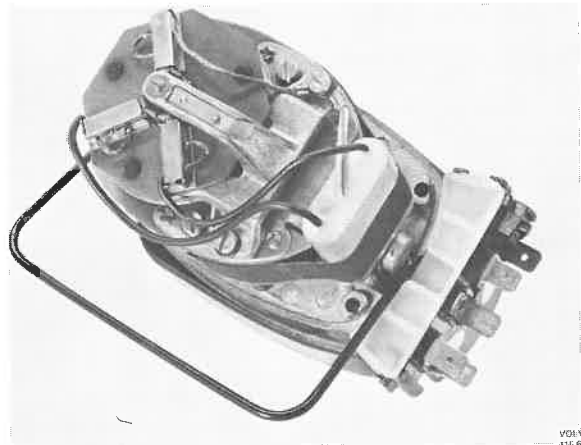

Fig. 36-12. Wiper motor with removed brush retainer bridge
1. Remove the casing from the wiper motor and the two screws securing the brush retainer bridge. Pull the rotor straight up and remove the two screws securing the stator, see Fig. 36-12.